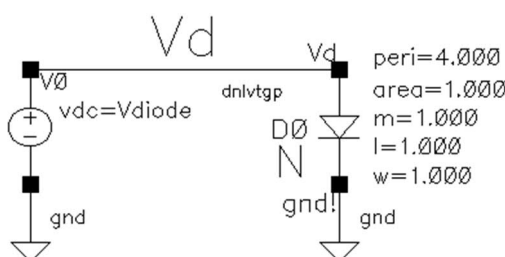

Figure 10. Test bench schematic for the **dnlvgtgp** diode table extraction.
- a. Create a new cell view called **Diode\_Tb** with a schematic view. Instantiate a **vdc** from **analogLib** and a **dnlvgtgp** N+/Pwell diode from the library **cmos065**. Set both **Length** and **Width** of the diode to **1um**. It should look like in Figure 10.